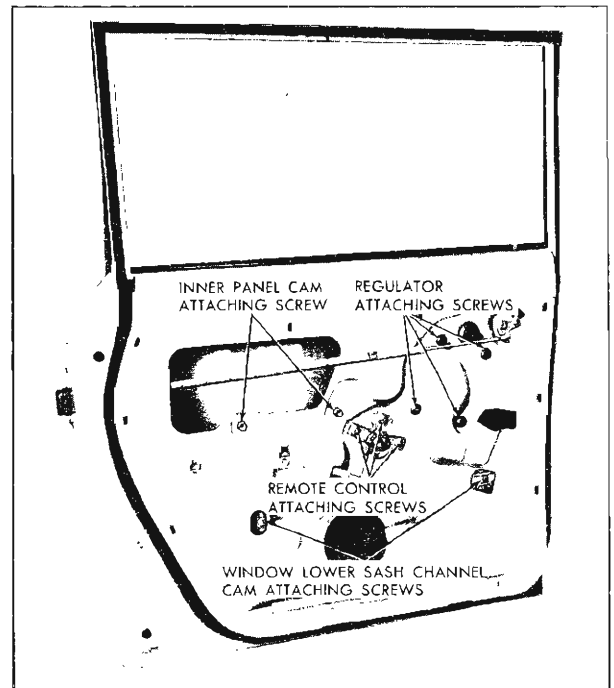

Fig. 12-32 Rear Door Assembly
1. Remove door trim assembly and detach inner panel water deflector sufficiently to gain access to remote control attaching screws (Fig. 12-32).
3. Remove inside locking rod assembly attaching screw and washer and detach connecting rod from clip on inner panel (Fig. 12-32).
1. Raise door window. Remove door trim assembly and detach inner panel water deflector sufficiently to expose inner panel cam attaching screws (Fig. 12-32).
2. Lower door window sufficiently to gain access to sash channel cam attaching screws through access holes in door inner panel and remove screws (Fig. 12-32).
3. Carefully raise door window. Place a protective piece of paper over window frame assembly and door weatherstrip to protect paint and weatherstrip from damage and secure window in the full-up position by installing a twelve (12) to fifteen (15) inch piece of body tape (2" or 2½" in width) over window frame and firmly pressing tape to both sides of glass. This is necessary to positively hold glass in the up position during removal of the window regulator.
4. Remove window regulator attaching screws. Carefully move regulator assembly rearward to disengage regulator arm roller from inner panel cam; then remove regulator from door (Fig. 12-32).
3. Carefully lower door window and through access holes in door inner panel remove screws securing window lower sash channel cam to window lower sash channel (Fig. 12-32).
1. To adjust rear door window in or out, lower door window. Loosen rear glass run channel retainer assembly attaching screw and adjust guide assembly as required and tighten screw (Fig. 12-32).
2. To correct a condition where the glass is cocked in the glass run channels, loosen door window inner panel cam front and/or rear attaching screws(s), adjust cam as required and tighten screws (Fig. 12-32).